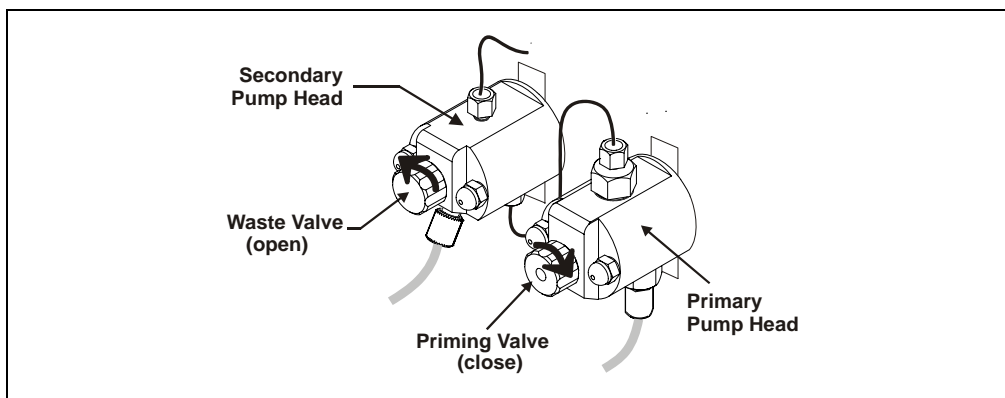

Figure 3-9. Priming the Pump
1. Verify that the priming valve on the primary pump head (see Figure 3-9) is closed (turned all the way clockwise).